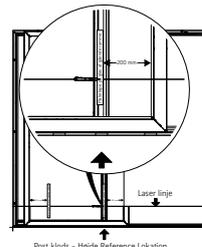

Figure 10: Laser position 2 – mark line on tape at laser height
15. Move the sash so the tape aligns with the mullion (center), and mark the laser line on the tape on both sides (figure 10).